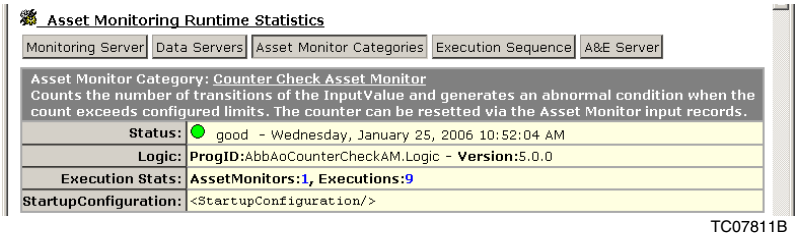

Figure 25. Asset Monitoring Server Runtime Statistics: Asset Monitor Categories Page
- 3. The **Asset Monitoring Runtime Statistics: Asset Monitor Categories** page (Figure 25) shows a list of the different types of Asset Monitor logic (Asset Monitor Categories) loaded in the AssetMonitoring Engine. For each Asset Monitor logic it reports the number of Asset Monitor instances loaded and the total Asset Monitor logic executions counter.